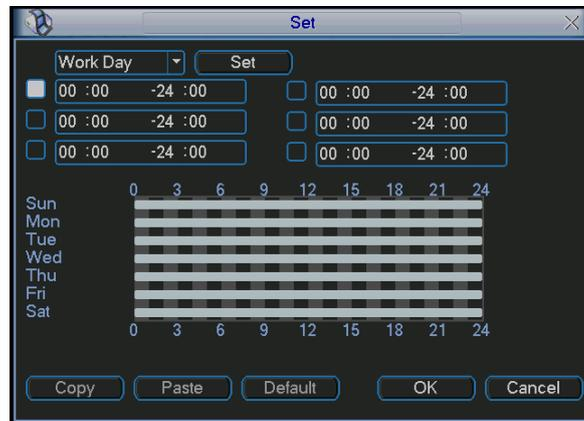
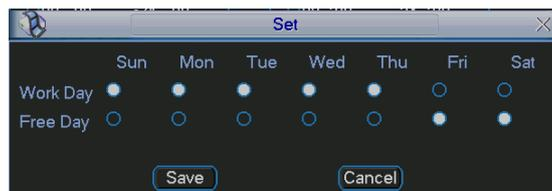

Figure 6-62
Figure 6-63
- Period: Click set button, you can see an interface is shown as in Figure 6-62. Here you can set for business day and non-business day. In Figure 6-62 click set button, you can see an interface is shown as in Figure 6-63. Here you can set your own setup for business day and non-business day.